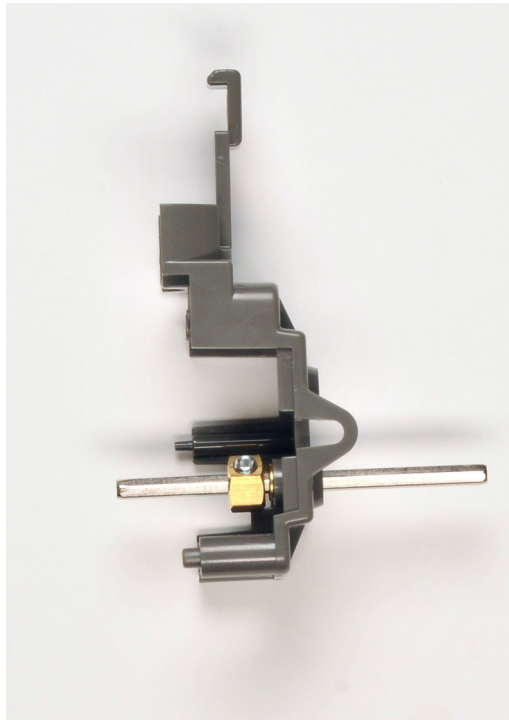

Figure 1.13
7. Insert the 26mm (longer) end of hex shaft into the rear eyelet, as shown in figure 1.13.